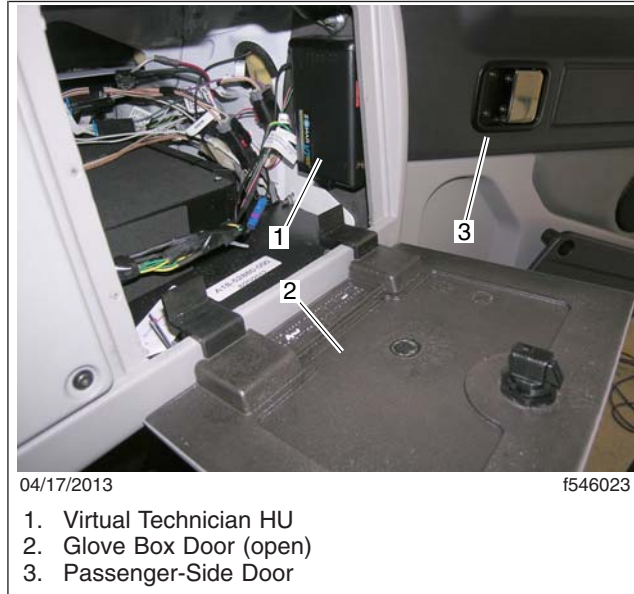

Fig. 7, Virtual Technician HU, Installed
- 6.5 Connect the 4-pin connector from the A06-82896-000 (A06-83364-000 for the 4700) to the VT. See Fig. 7.